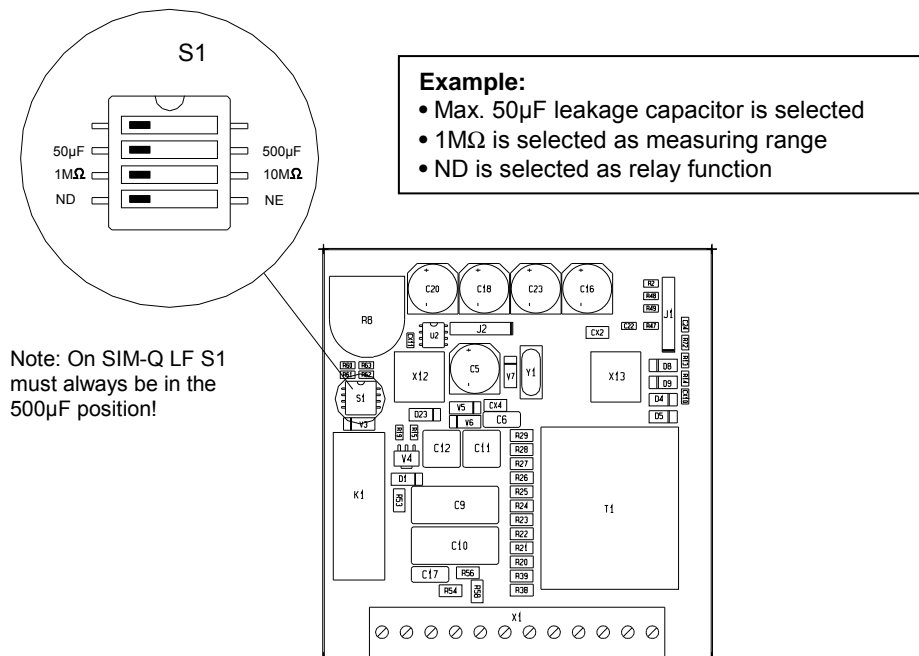

Figure 1
The relay contact can be configured to either a normally energised contact (NE) or a normally de-energised contact (ND). ND function is recommended, if the SIM-Q is supplied from the IT system under supervision, because a disconnection of the supply will not result in an alarm. Figure 1 below shows the location of the switch S1 on the PCB for selection of either ND or NE relay function. The PCB is located under the lid.
The SIM-Q can be configured for measuring range 1...0M Ω with 22k Ω on the scale centre or for 10...0M Ω with 220k Ω on the scale centre. Figure 1 shows the position of the switch for selection of either 1M Ω or 10M Ω measuring range. Please notice that a change of measuring range also involves a change of scale. Change of scale can be done by following the instructions below.